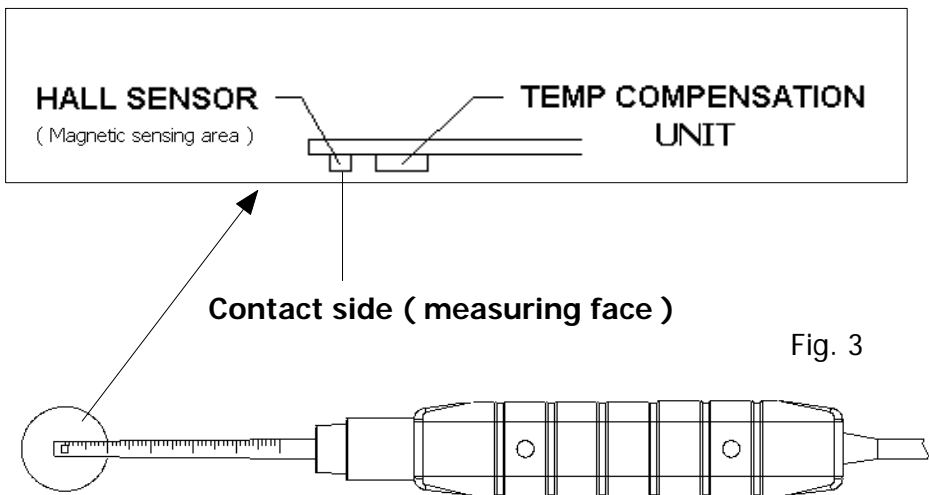

Fig. 3
- 5) Contact and close the testing material to the probe head (refer to Fig. 3) , the Display will show the magnetic field value along with the unit (mT, G).